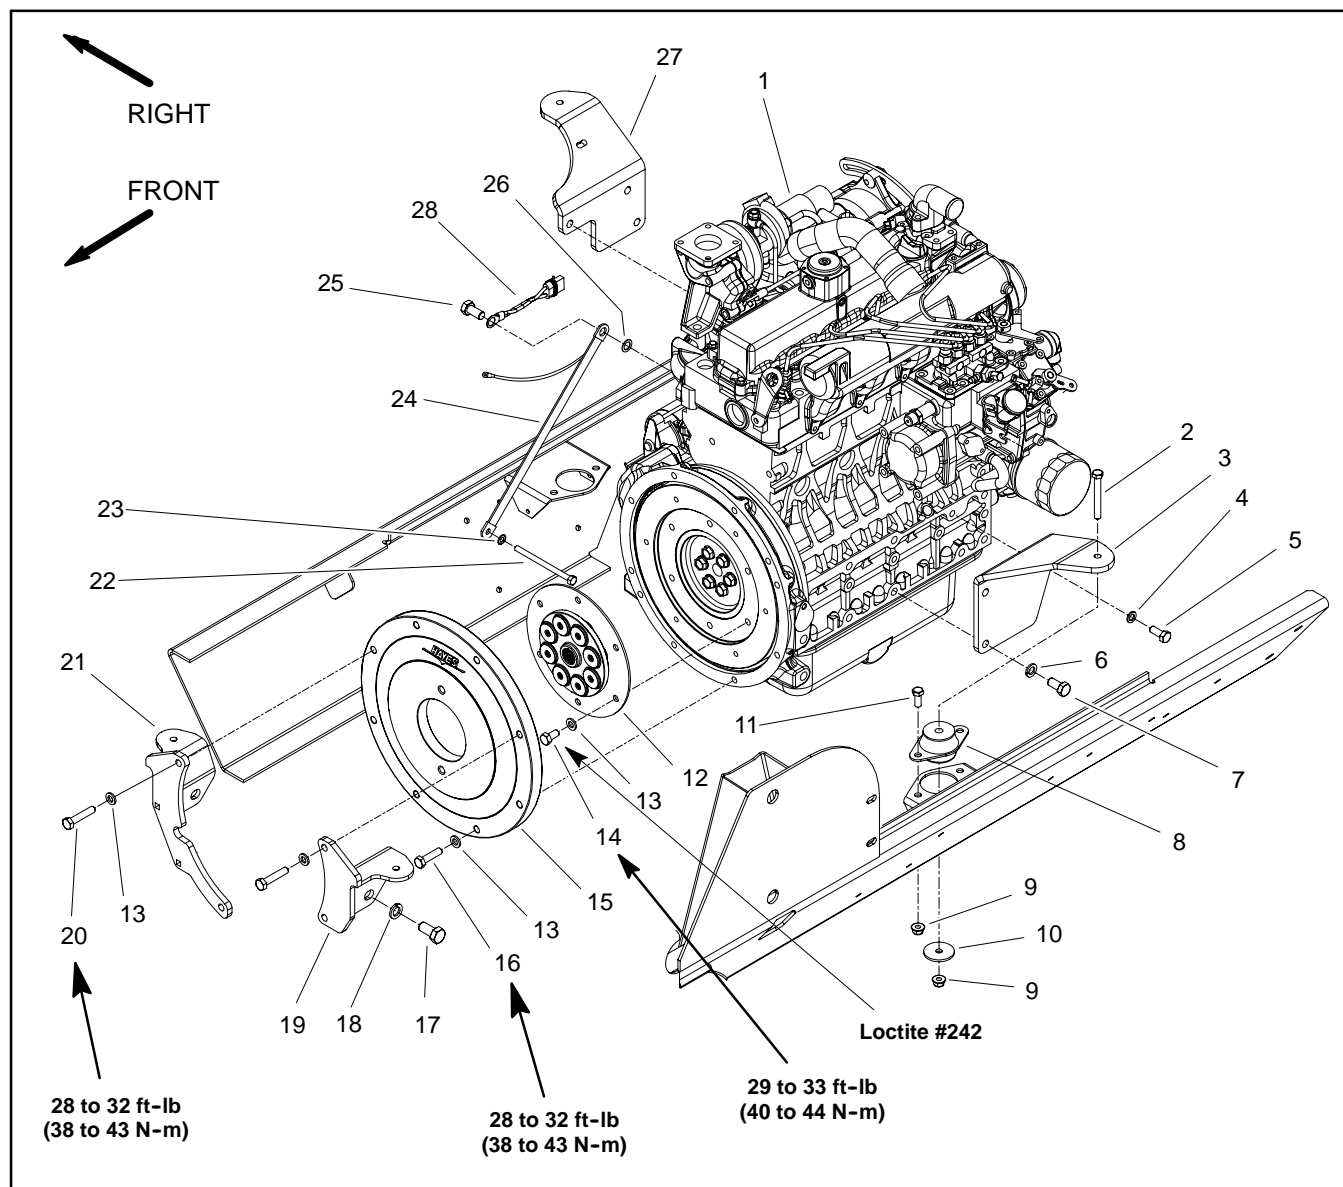

Figure 10
Engine Removal (Fig. 10)
18. If necessary, remove engine mounts from the engine using Figure 10 as a guide.
Engine Installation (Fig. 10)
2. If removed, install engine mounts to the engine using Figure 10 as a guide.